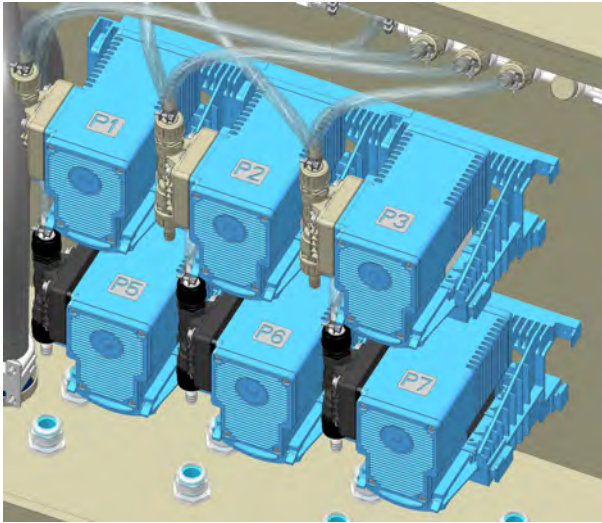

Fig. 6: Product assignments
1. ▶ Guide the hoses of the product suction lances through the pull relief screw connections (Fig. 6, no. 1).
2. ▶ Connect the tubing hoses to the corresponding hose nipples (Fig. 6, no. 2) of the pumps (Fig. 6, no. 3) using the hose clamps supplied.